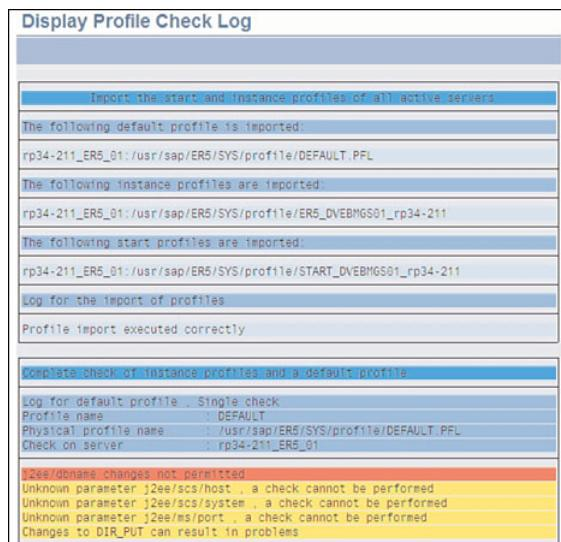

FIGURE 25.8 It is not uncommon to receive messages such as these when you import profiles.
13. Enter the Central Instance Number from the planning worksheet and the SAP Solution Manager Key, as shown in Figure 25.8, and click Next.
- Import profiles with transaction RZ10 (after the profiles are imported, you can easily change SAP profile parameters). From the SAP menu, go to Utilities, Import Profiles, Of Active Servers. The Profile Check Log will provide information reflecting which profiles have been imported, along with any warnings or errors regarding specific profile parameters (see Figure 25.8).